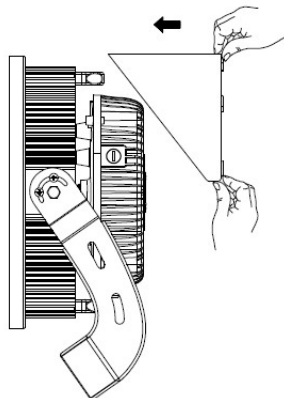
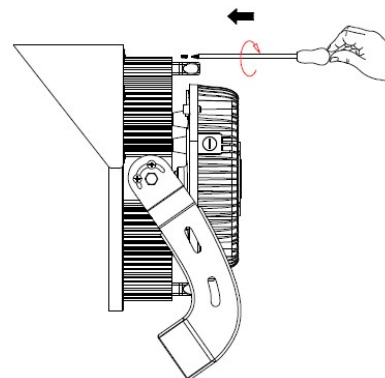

FIG.6
FIG.7
2) Turn around, slide the shroud onto the fixture from the back, align screw holes and lock with screws. (See FIG.6 and FIG.7)